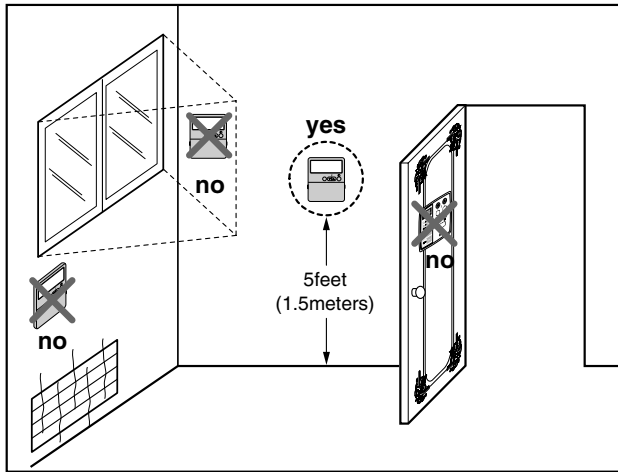

Fig.1 Typical locations for remote controller
- This remote controller is equipped with a seven segment LED. display. For proper display of the remote controller LED's, the remote controller should be installed properly as shown in Fig.1.